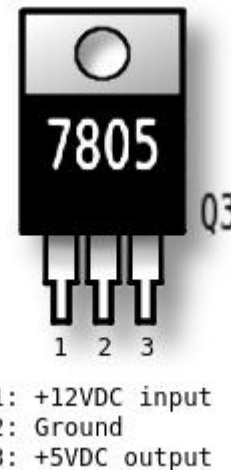

Fig. 45 – Check for +5V across pins 2 and 3 of 7805 (Q3).
- ✓ Check the 7805 (at Q3) with a volt meter and verify +5V output: red probe to pin 3, black probe to pin 2 GND (See Fig. 45).